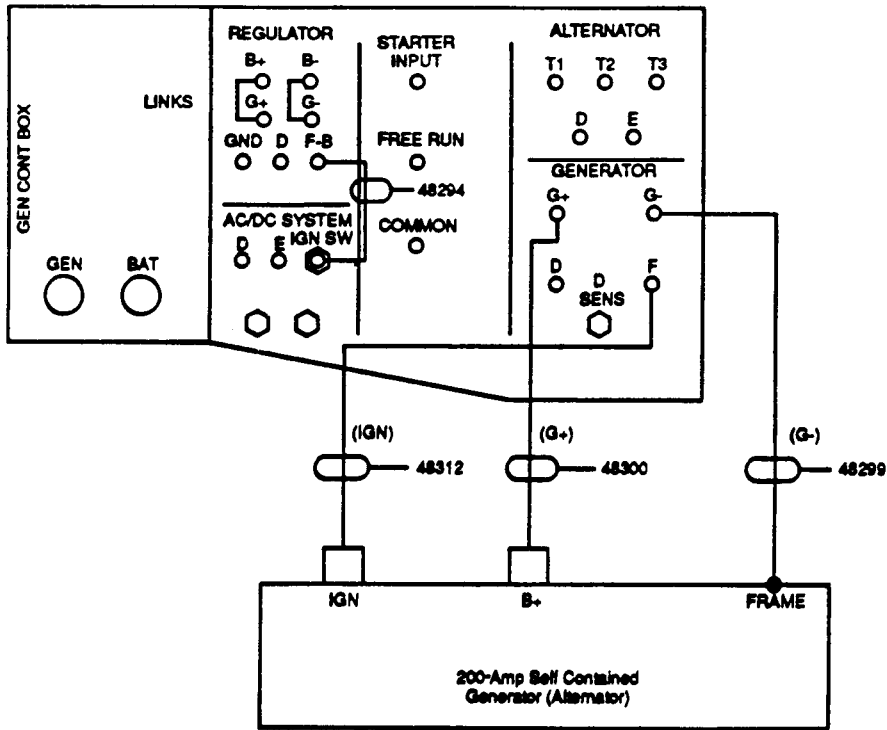

Figure 1
- Figures 1 and 2 illustrate connecting the alternator to the 500-amp test stand.